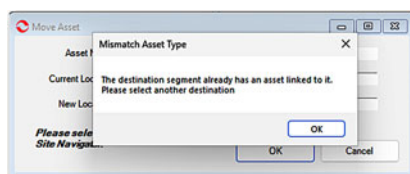

**Figure 46: New Location is Correct, Click OK**
4. If the location that appears in the New Location text box is correct click **OK** (Figure 46).